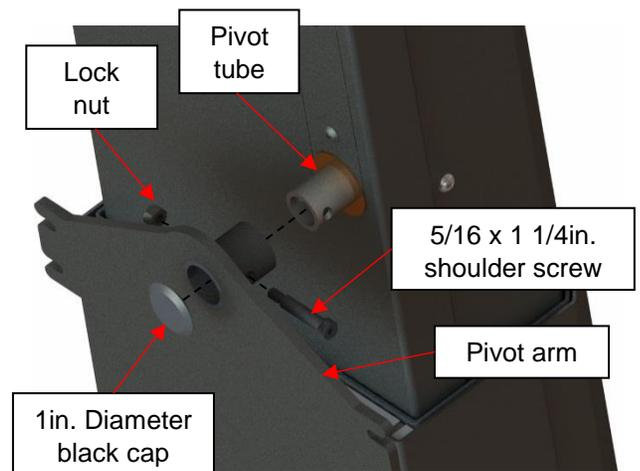

Figure 70
- 2) Install the 5/16 X 1 1/4in. shoulder screw through the pivot arm and the pivot tube to lock them together. (Figure 70)
- 3) Put the 1in. diameter black cap in the pivot arm to prevent dirt from getting into the mechanism. (Figure 70)